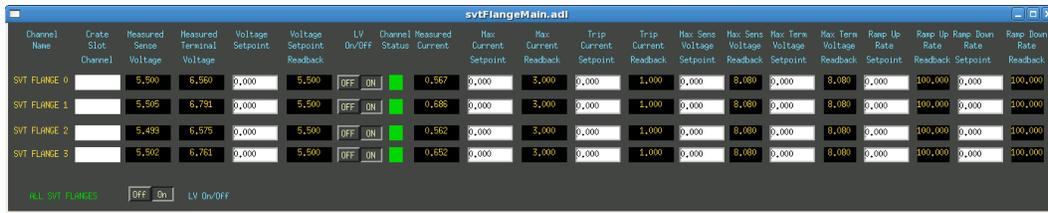

Figure 2.9: Flange power GUI.
- **Flange power GUI** in Fig. 2.9.
- (a) Open the SVT Flange Power Control GUI, see Fig. 2.9 (see 2.1 to restart if not running).
- (a) Find the SVT Flange Power Control GUI, see Fig. 2.9 (see 2.1 to restart if not running).